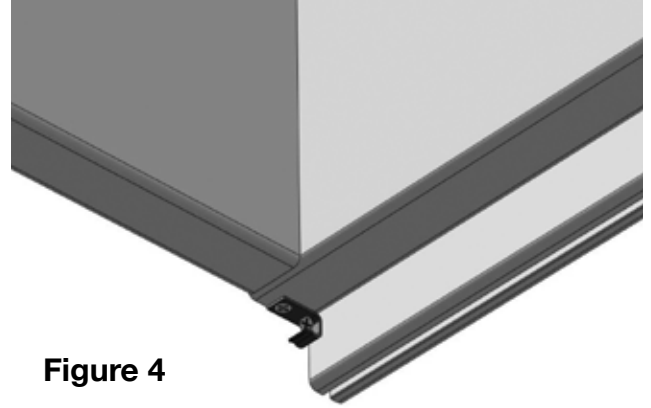

Figure 4
5. Attach End Clips to the underside of the rim joist, spaced no more than 12" apart (Figure 4).